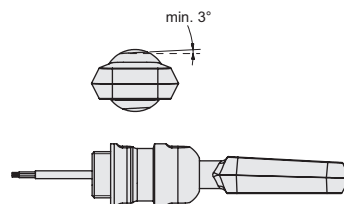

Fig. 4: pms sensor D12-adapter shaft with sensor screw connection BF-pms/A1, all surfaces must be inclined at least 3°
- Push the sensor with its shaft into the sensor screw connection BF-pms/A1 and align the sensor (see Fig. 4 to Fig. 6). Tighten with lock nut (maximum tightening torque 30 Nm).
- If the sensor is cleaned wet, all surfaces must be inclined at least 3° from the horizontal alignment so that the cleaning agents can run off completely (see Fig. 4 to Fig. 6). There is a risk that condensate or dripping water might drip from the sensor and mounting brackets into the product area.